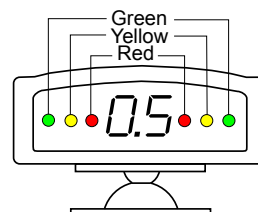

Fig.3 Wireless Display (Front View)
(a) There are three (3) LED Lights (Green/Yellow/Red) on each side of the two-digit distance display (Fig. 3). The color LED lights have two functions: indicating the orientation of obstacle and showing if you are in Safe/Warning/Stop zone. See Chart. 1 below for details.